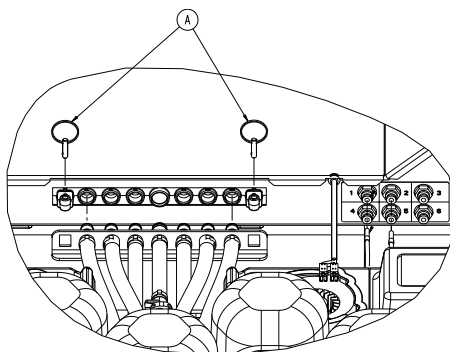

Figure 1-13: Retaining pins
6. Remove the two retaining pins (A) from the hose quick connection from the foot box assembly (Figure 1-13 on page 1-38). Save the pins.